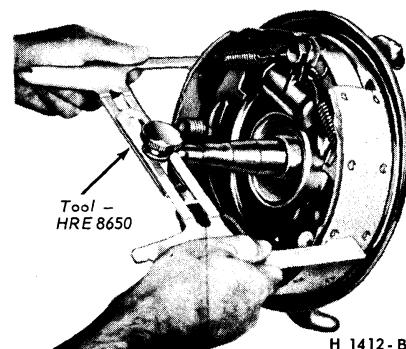

FIG. 2 Measuring Shoes
2. Reverse the tool as shown in Fig. 2, and adjust the brake shoes to touch the gauge. The gauge contact points on the shoes (Fig. 2) must be parallel to the vehicle with the center line through the center of the axle. Hold the automatic adjusting lever out of engagement while rotating the adjusting screw, to prevent burring the screw slots. Make sure the adjusting screw rotates freely. If necessary, lubricate the adjusting screw threads with a thin, uniform coating of C1AZ-19590-B grease.